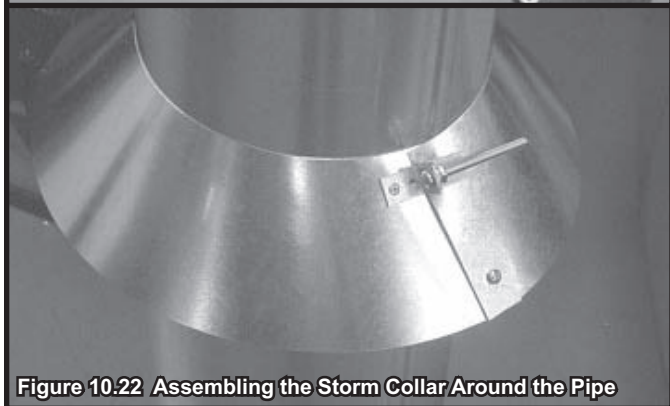

Figure 10.22 Assembling the Storm Collar Around the Pipe
- Slide the assembled storm collar down the pipe section until it rests on the roof flashing (see Figure 10.22).